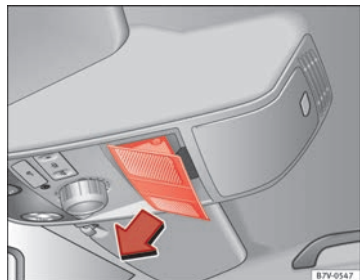

Fig. 196 On the interior roof lining: Remove cover
- Push open the cover in the direction indicated (arrow) ⇒ Fig. 196.